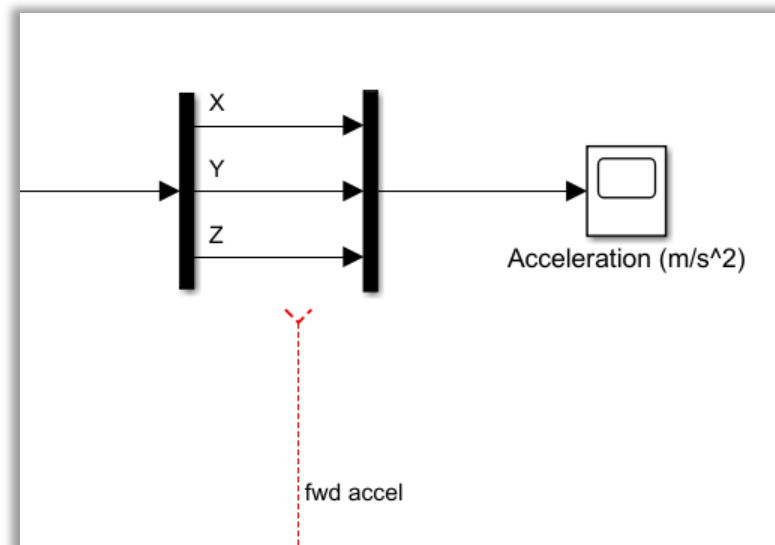

Figure 2: Connecting forward acceleration
3. Press the right button (RB) to stop the code. Complete the connection shown in Figure 2 below to route the forward acceleration to an integrator block, which is connected to the **accelFwdSpd** block that routes the signal to the Forward Speed Estimate scope.